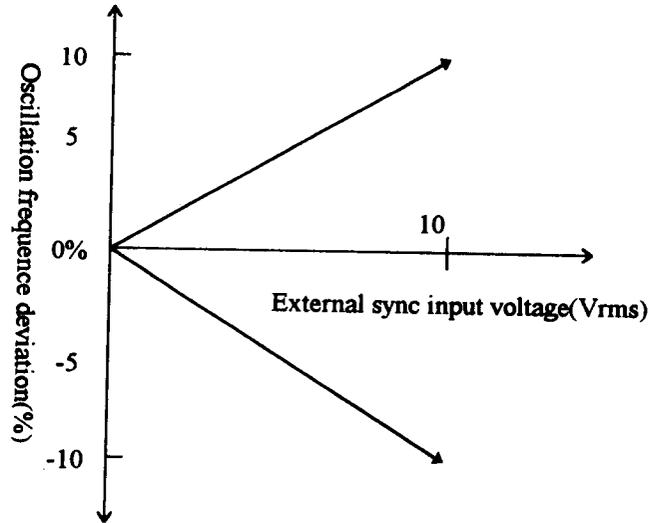

Fig.3
1. Connect a voltmeter capable of measuring AC 1V rms to OUTPUT terminal (4); Set ATTENUATOR (3) to 0dB and then adjust AMPLITUDE (7) until the voltmeter indicates 1V rms. A voltage of 1V rms will appear at OUTPUT terminal (4).
2. Set ATTENUATOR (3) to -40dB. The voltmeter indicates about 0V, while a voltage of 10mV rms appears at OUTPUT terminal (4).
5. Use of Synchronizing Input Terminal By applying an external sine wave signal to SYNC terminal (10), the oscillating frequency of instrument can be synchronized to the external signal. The synchronizing range is increased in proportion as the input voltage is increased as shown in Fig.3, indicating that the synchronizing range is about $\pm 1\%$ per input voltage of 1V.